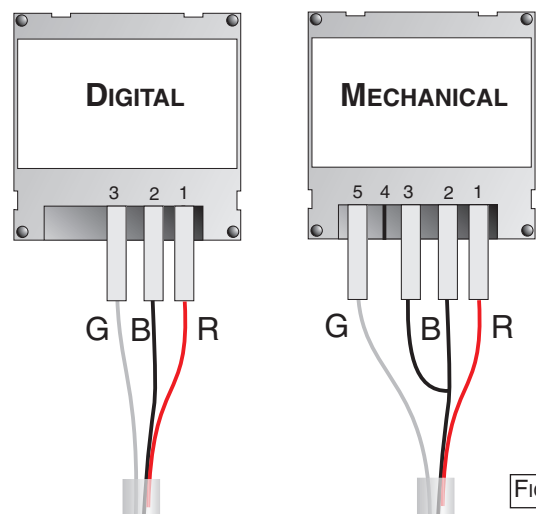

FIG. 2.28
5. Connect the wires supplied with the clock to the digital time clock as shown in Fig. 2.28;